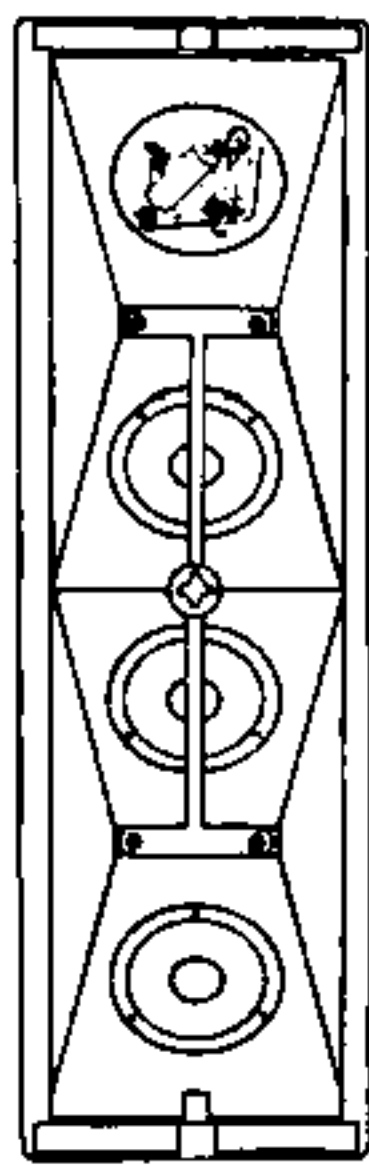

FIG. 4
2. Lift acoustic foam up and back to expose Directivity Control. (See Fig. 4 for location of circuit).
5. Align the driver and gasket to the j-clips and secure the driver with the three (3) screws.
6. Replace the Diffractor and secure with the four (4) screws.